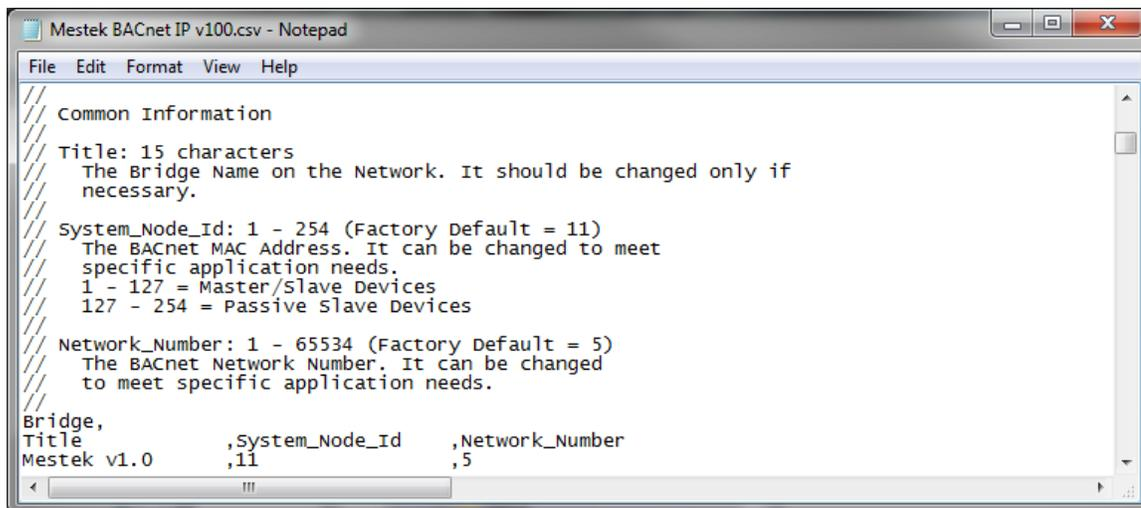

Figure 4 - NotePad – Changing the MAC Address.
- 5) To change the MAC Address, find the section titled “Common Infomation” (see Figure 4) and change the System_Node_ID field as needed. It can be changed any value from 1 to 254. The Title may be different than shown depending on which Mestek product is being used.